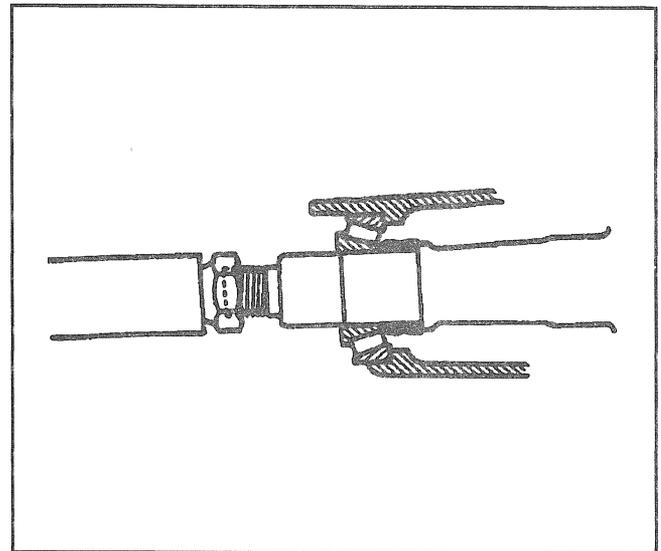
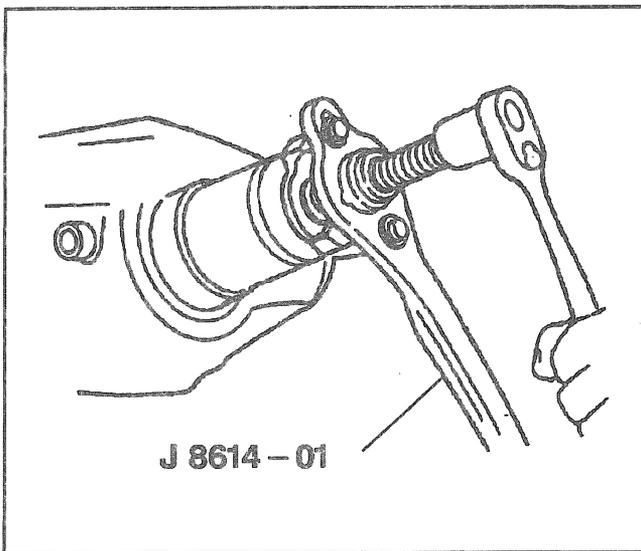
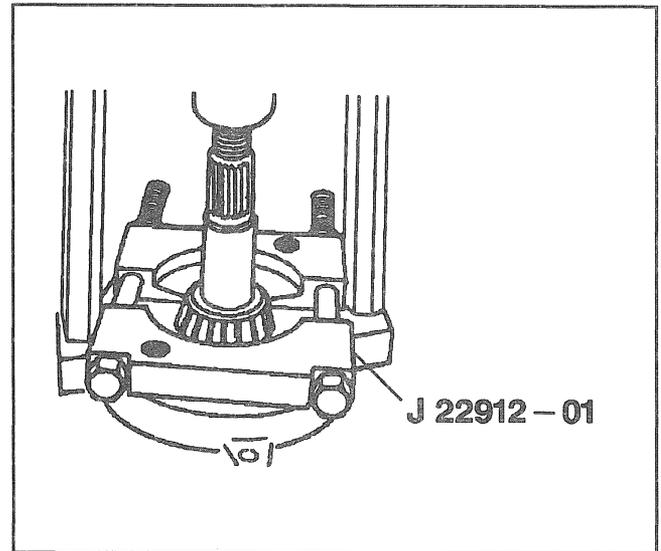

Figure 8—Removing the Drive Pinion
Figure 7—Removing the Pinion Flange
Figure 9—Removing the Pinion Rear Bearing
17. Pinion flange using J 8614-01 (Figure 7).
18. Pinion (7) from the axle housing.
- Replace the differential cover (12) with two bolts (14) to keep the pinion from falling to the floor.
- Drive the pinion out of the housing with a hammer and a soft drift (Figure 8).
19. Collapsible spacer (4) from the pinion.
20. Outer pinion seal (38) and bearing (39).
21. Inner bearing (5) and shim (6) from the pinion.
- Press the bearing off the pinion using J 8612-B (Figure 9).